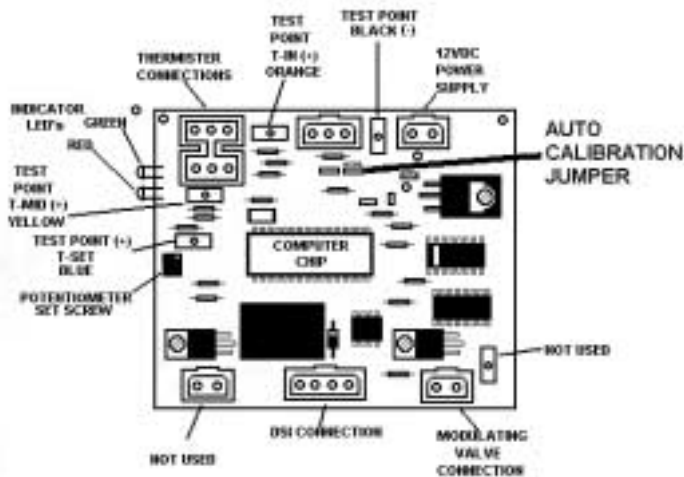

Figure 1
4. Locate the control board (see figure 1).
5. Locate and remove the jumper labeled ACAL (see figure 1) from the control board. Be careful to remove metal jumper not just the plastic insulator. Make a note of the exact position the jumper was located. Set jumper aside for later reinstallation.